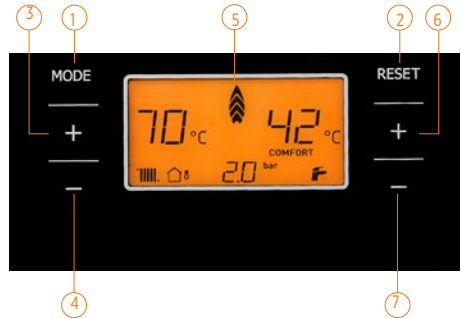

Figure 47 Control panel of Minerwa 25 and Minerwa System 25
At that position, combi boiler operates both for heating the environment and providing Domestic Hot Water. Radiator (CH) temperature adjustment is made with (3) and (4) numbered buttons in Figure 47, Domestic Hot Water temperature adjustment is made with (6) and (7) numbered buttons and this temperature is indicated with (9) numbered indicator for Radiator (CH) and with (11) numbered indicator for Domestic Hot Water.